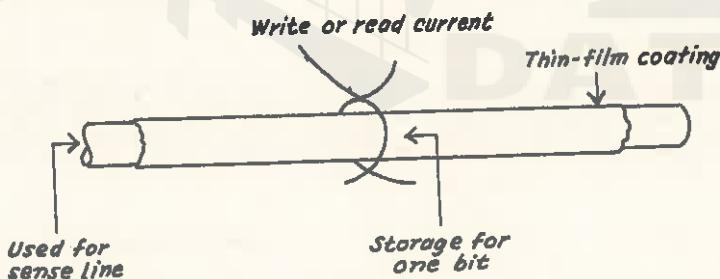

Fig. 36.28. Plated-wire memory.
(3) Plated wire memory
- The area where the insulated wires loop around the plate wire (Fig. 36.28) forms a bit storage location. Reading is non-destructive.